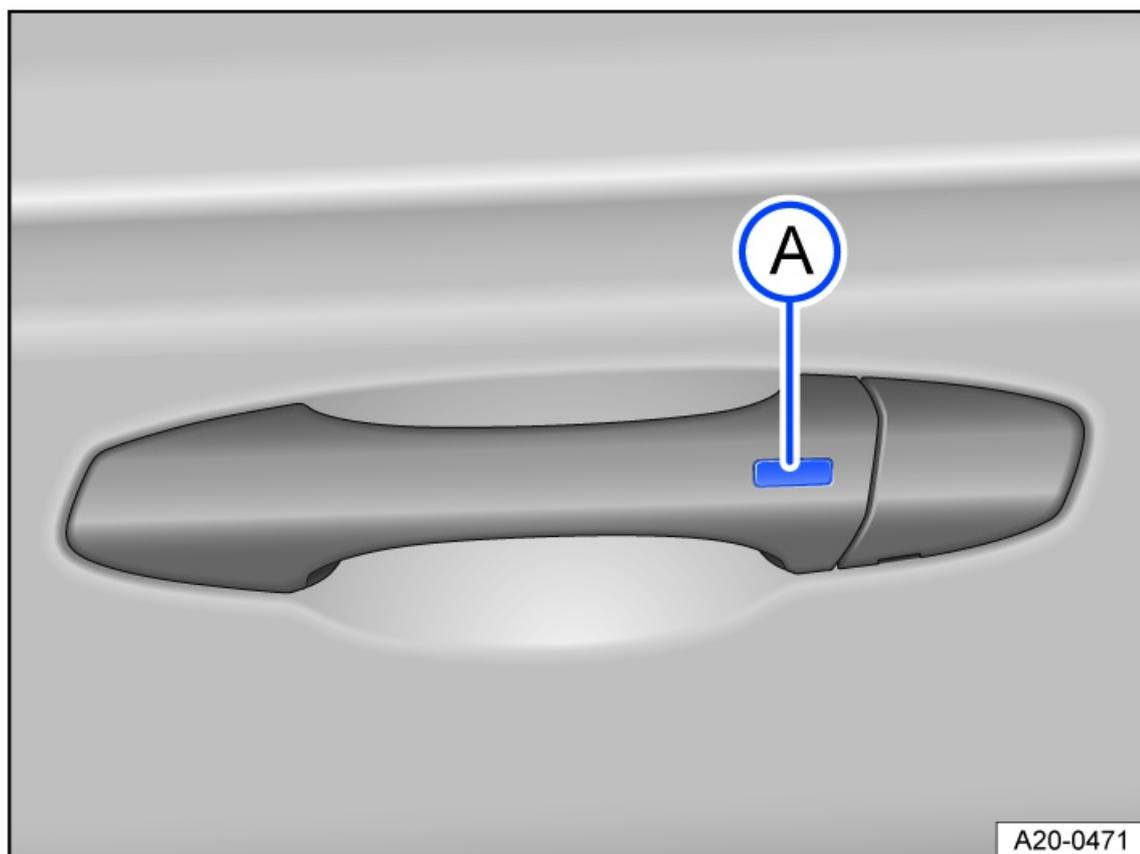

Fig. 51 In door handle: Button to unlock or lock.
1. Press button *fig. 51* on the outside of the door handle.
2. Press button *fig. 51* on the outside of the door handle.